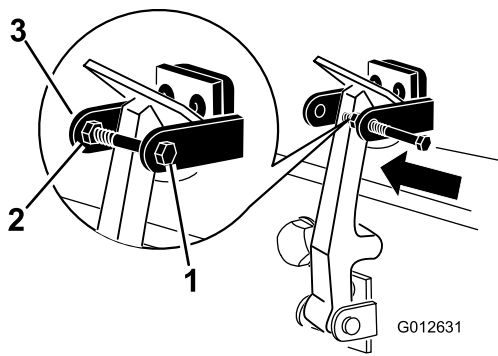

Figure 8
8. Screw the bolt into the other arm of hood-lock bracket to lock the latch in position (Figure 8).